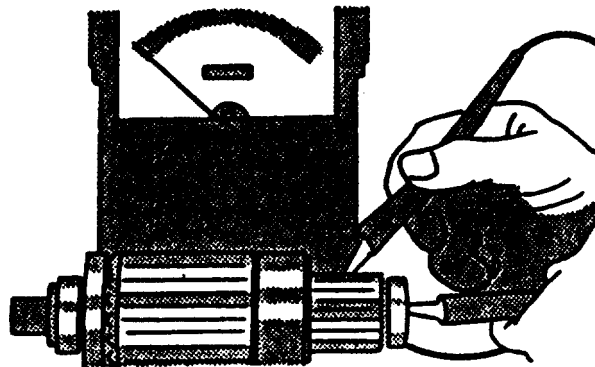

FIGURE 3-19. Testing for Grounded Windings
- b. Set multimeter for ohms and touch one probe to a commutator segment and other one to armature core, refer to FIGURE 3-19. There should be no continuity. If there is continuity, armature is grounded. Replace armature if grounded.